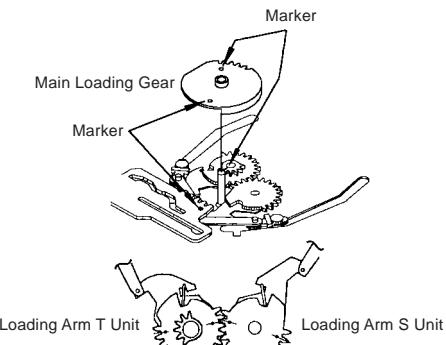

Fig. 2-16-B
2-16: LOADING GEAR S/T UNIT (Refer to Fig. 2-16-A)
- When you install the Loading Arm S Unit, Loading Arm T Unit and Main Loading Gear, align each marker. (**Refer to Fig. 2-16-B**)